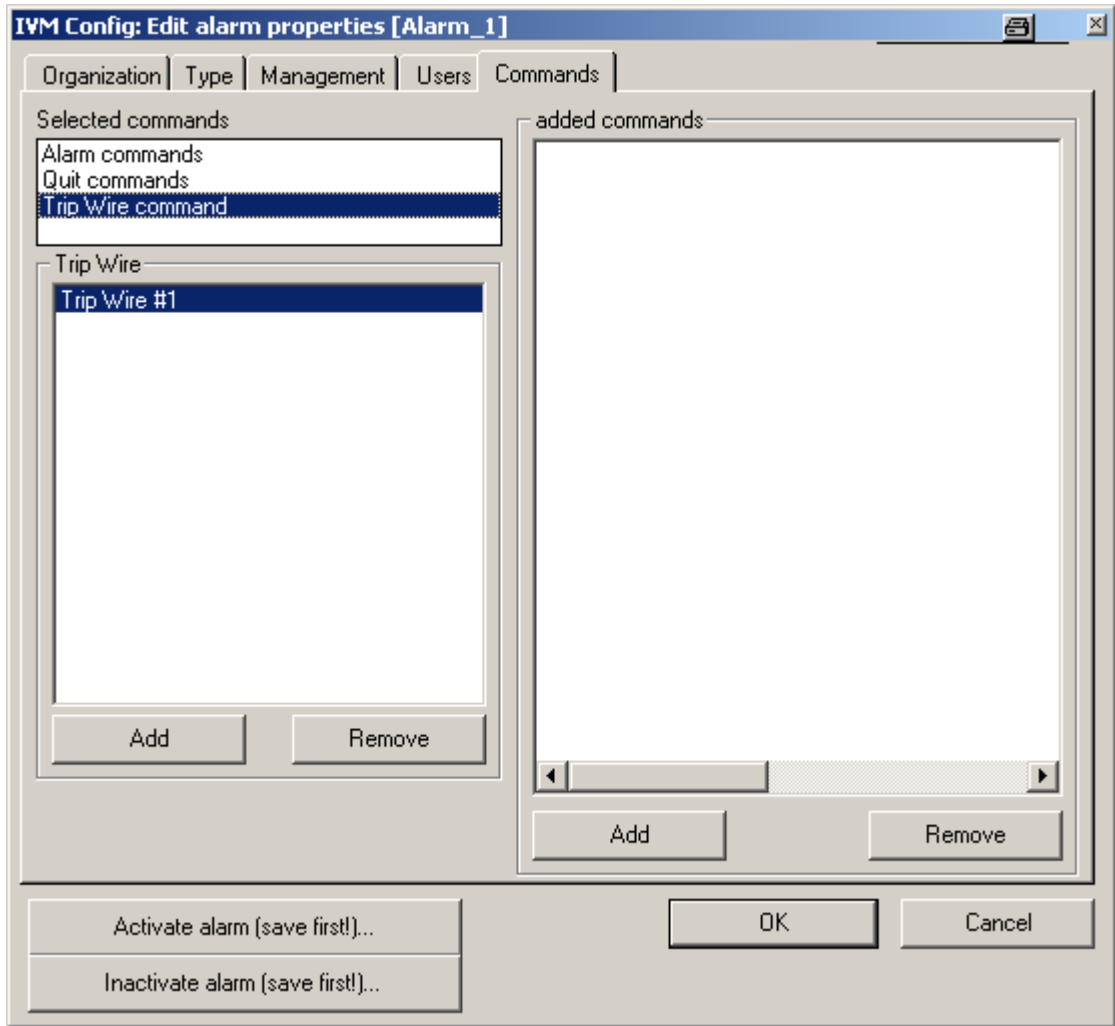

Fig. 108 Edit alarm properties – Commands – New trip wire
- A trip wire or an area is created (see Fig. 108).